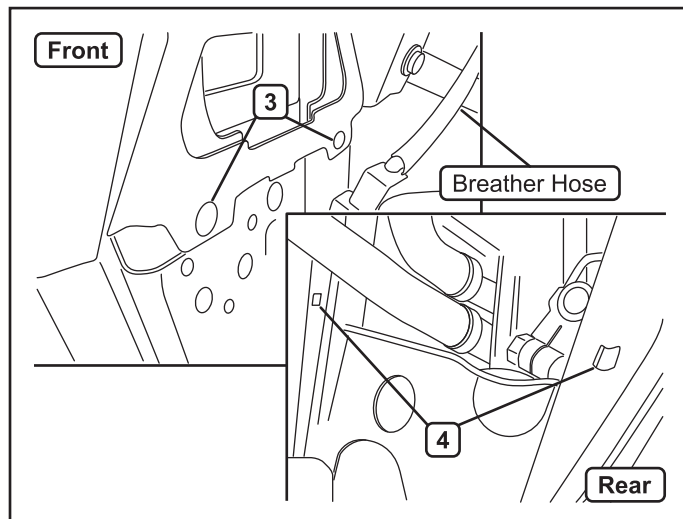

Figure 6. Winch mount bolt locations
4. Install winch mount plate (A) by inserting it from the left (driver) side of the machine. Frame holes (3) and (4) will align with corresponding holes in the winch mount plate. See figure 6.
5. Insert carriage bolts (C) through holes (3) and (4) so that the head of the bolt interfaces with the square hole in the frame. Install washers (J) and nuts (H); get all nuts started before tightening evenly. See figures 6 and 7.